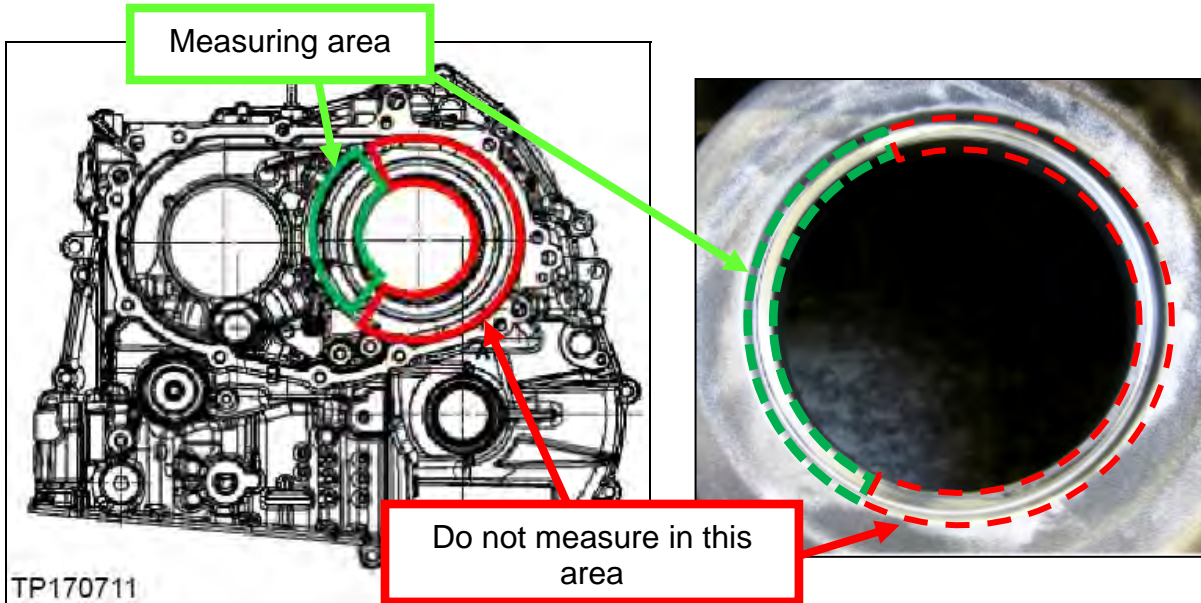

Figure 4M
- Refer to the Figures 4M and 5M and then proceed to page 55.
IMPORTANT: Please refer to Figure 4M for acceptable areas (highlighted in green) to measure “Y”.